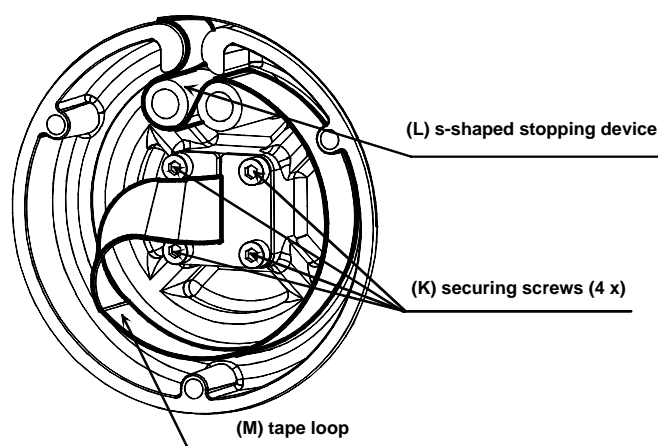

Figure 10-6
- Unscrew with the 2.5 Allen key the 4 screws (K) of the washer holder, as shown on Figure 10-6.
- Make a loop (M) and a S-shape (L) with the tape as shown on Figure 10-6.
- Secure the gaskets and the washers mounted on the tape in the axle core with the washer holder and its 4 screws (K) as shown on Figure 10-6.